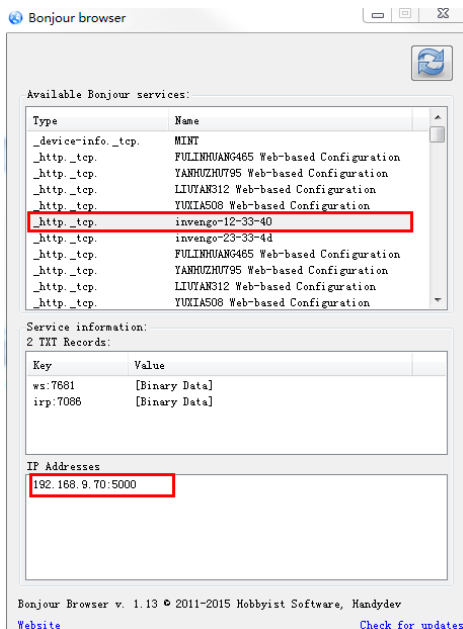

Figure 5.2 Bonjour Software
1) Find the IP address through the third-party software “Bonjour Browser” according to the invengo-xx-xx-xx (“xx” is the last three bytes of the MAC address, and the MAC address is pasted on the side of the reader), as shown in Figure 5.2 below.